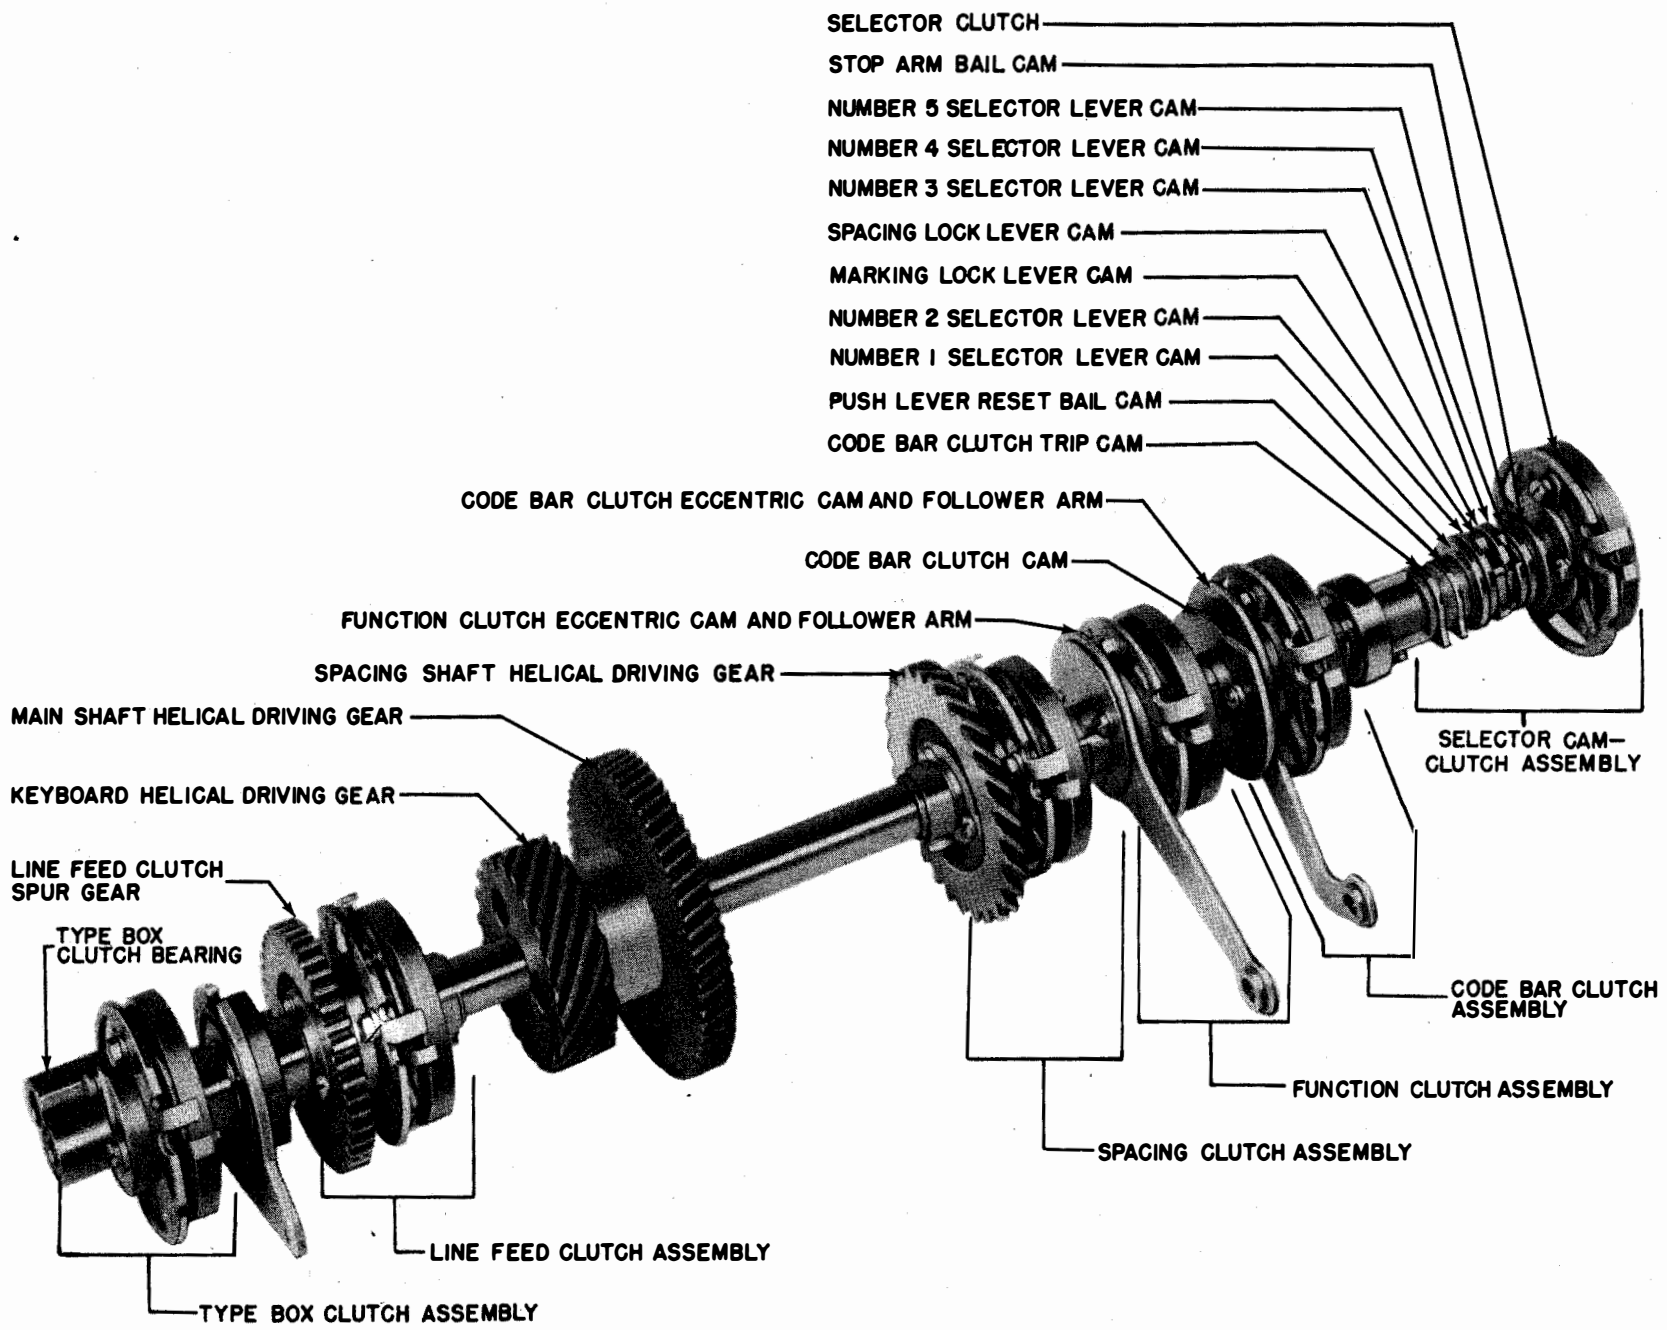
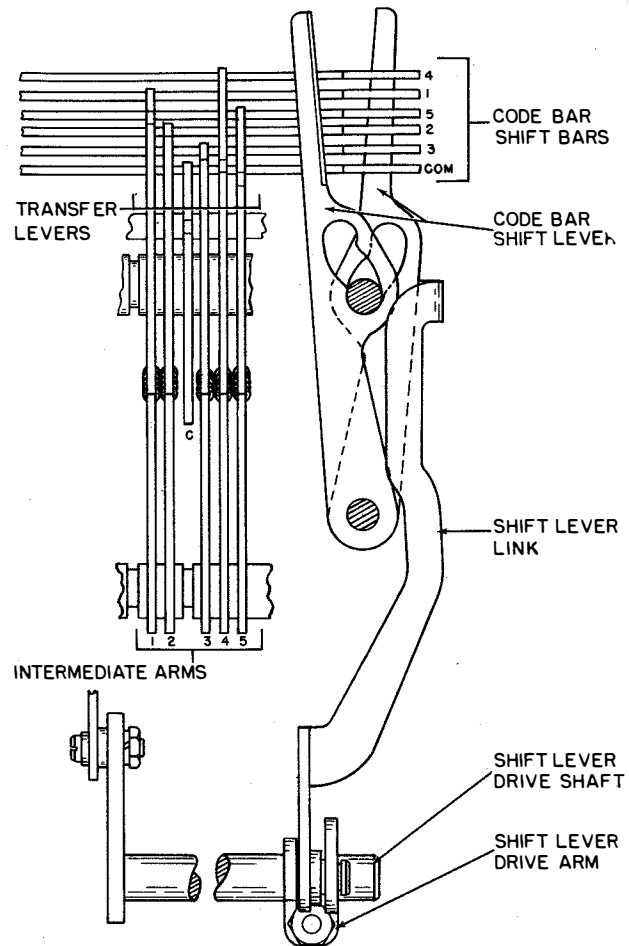

Figure 2-34. Automatic Typewriter Main Shaft
Figure 2-40. Code Bar Positioning Mechanism, Front View
b. MAIN SHAFT. (See figure 2-34.)
(1) The main shaft is located in the lower rear portion of the Automatic Typewriter and extends the full length of the unit. It is supported by ball type bearings mounted in each side frame.
(2) At the time the Automatic Typewriter is mounted on a Keyboard, the keyboard helical driving gear on its main shaft meshes with the signal generator helical driven gear. The main shaft helical driven gear meshes with the main shaft helical driving gear on the motor driven intermediate shaft on the Keyboard. Thus, motive force is extended from the motor to the main shaft which in turn drives the keyboard mechanism.
(3) The main shaft carries six clutches each of which, when tripped, drives its associated mechanism. These clutches have two shoes which bear against the inside surface of a drum which in turn is keyed to the main shaft. They operate as follows:
(2) The selector cam-clutch comprises, from right to left (figure 2-34), the clutch, the start lever bail cam, the fifth, the fourth, and the third selector lever cams, the cam for the spacing and the marking lock levers, the second and the first selector lever cams, the push lever reset bail cam, and the code bar clutch trip cam.
transfer lever (front view—third from the left) has an extension which passes behind the number 1 and number 2 transfer levers (figures 2-40 and 2-41). When either or both of these transfer levers are moved to the rear (mark position), they move the common transfer lever to the rear. This, in turn, moves the common code bar shift bar toward the rear of the Automatic Typewriter (mark position). As the selector cam-clutch completes its revolution, the trip shaft operating lever (fastened to the code bar clutch trip shaft) rides to the peak of the code bar clutch trip cam (figure 2-34). This causes the shaft to turn slightly and its attached code bar clutch trip lever releases the code bar clutch. Rotation of the clutch actuates the code bar shift levers through the intervening shift lever drive shaft, drive arm, and shift lever link (figure 2-40). Code bar shift bars which have been moved toward the rear position by their transfer levers are engaged by the rear code bar shift lever and are shifted to the left. Code bar